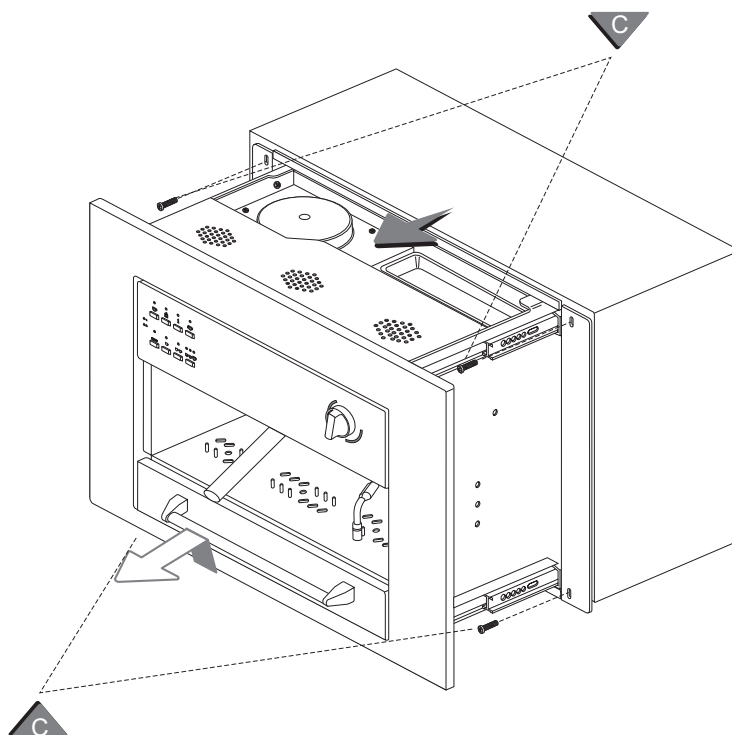

Fig. 4
6. Open the machine by lifting the handle and pulling outwards, taking care not to pull it out of the cabinet (Fig. 4).
7. Secure the machine using the appropriate screws **C** (Fig. 4).